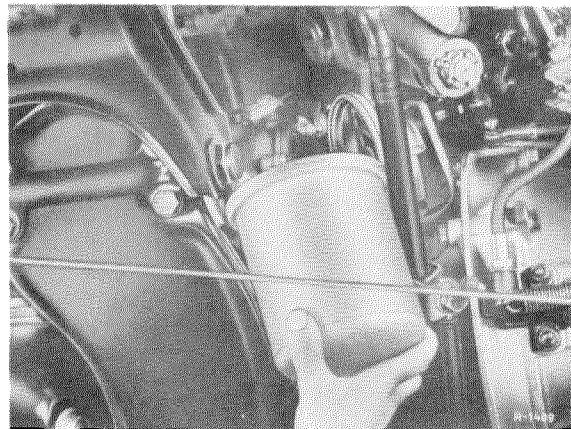

Figure 18-7/7
2. Screw out oil drain screw (8) in bottom part of filter, drain oil. If drain screw is badly
accessible, loosen cylinder screw (1) lightly and turn bottom part accordingly (See Figure 18-7/6).
3. Remove bottom part of filter by unscrewing cylinder bolt (1). Use special wrench Part No. 110 589 00 07 00 with SW 8 for the purpose.
4. Remove bottom part of filter (6) and take out main filter element (3). Then take out bottom part (6) between tie rod and front axle support (see Figure 18-7/7). If there is not sufficient space to remove it, have somebody else pull the steering toward the right until the bottom part is removed. In addition, raise engine slightly.
5. Remove by-pass filter element (5) and compression spring (7) with plate and wash bottom part of filter with gasoline.
Check by-pass line, or hollow cylinder screw (1), as well as return hole in riser pipe of filter, bottom part, and blow out with compressed air, if required (see Figure 18-7/6).